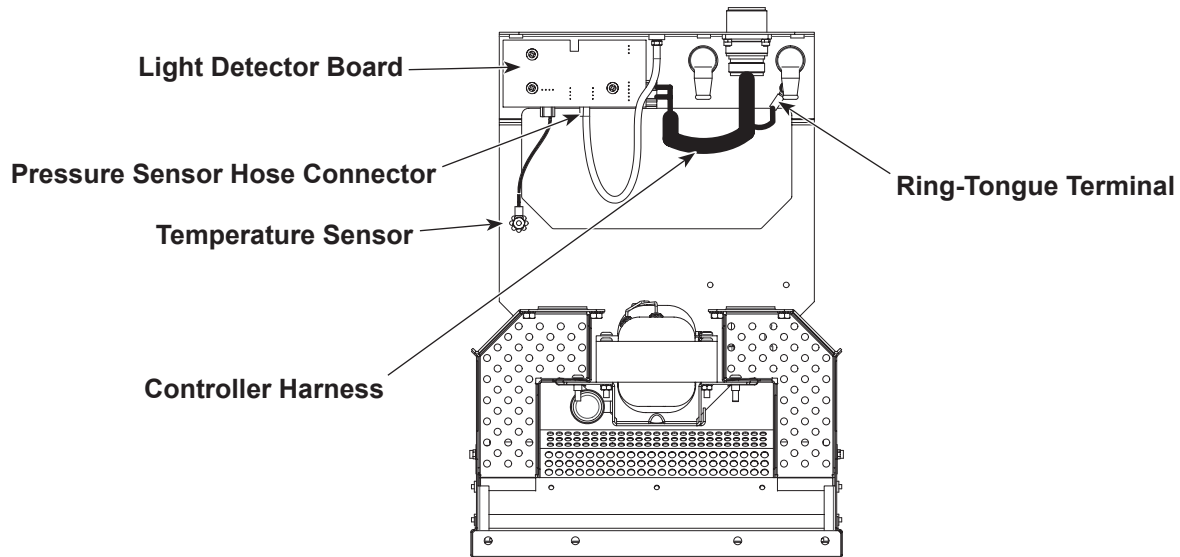

Figure 6-24 Light Detector Board Replacement (External Blower Version Shown)
2. See Figure 6-24. Disconnect the temperature sensor harness, the controller harness, and the pressure sensor hose from the light detector board.
See Figure 6-24. The internal temperature sensor (thermistor) is also replaceable separately. It consists of a two-wire harness with plug and ring-tongue terminal. The thermistor is potted to the ring-tongue terminal.